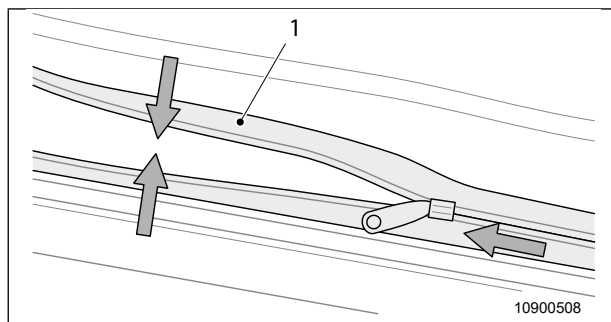

Fig. 41 Zip fastener
When closing the zip fasteners, make sure that they are not under tension (Fig. 41, item 1). To do so, pull the fabric bellows towards the zip fastener.